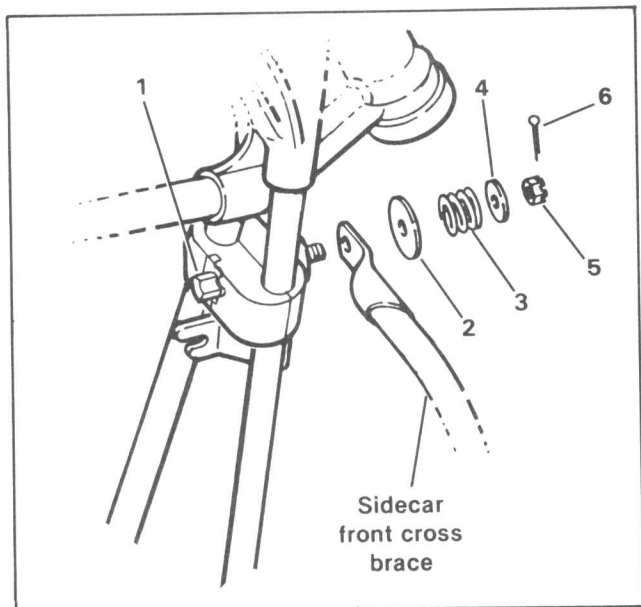

Figure 6-4. Front Upper Connection
7. See Figure 6-4. Connect brace to upper clamp bolt (1) using washer (2), spring (3), washer (4), castle nut (5) and cotter pin (6). Tighten nut until bolt (1) protrudes through castle nut, then install cotter pin.
3. See Figure 6-4. Disconnect front cross brace from upper clamp bolt. Retain items 2-6 for installation.